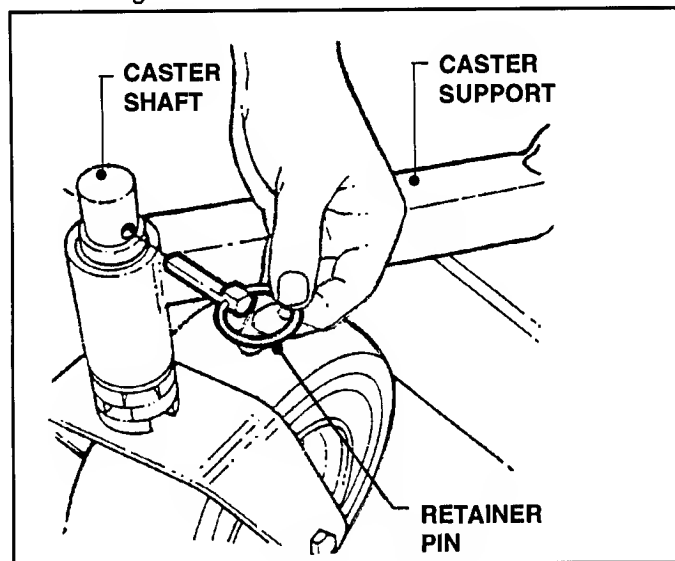

FIGURE 5.19
1. Remove Retainer Pin from Caster Shaft. See Figure 5.19.